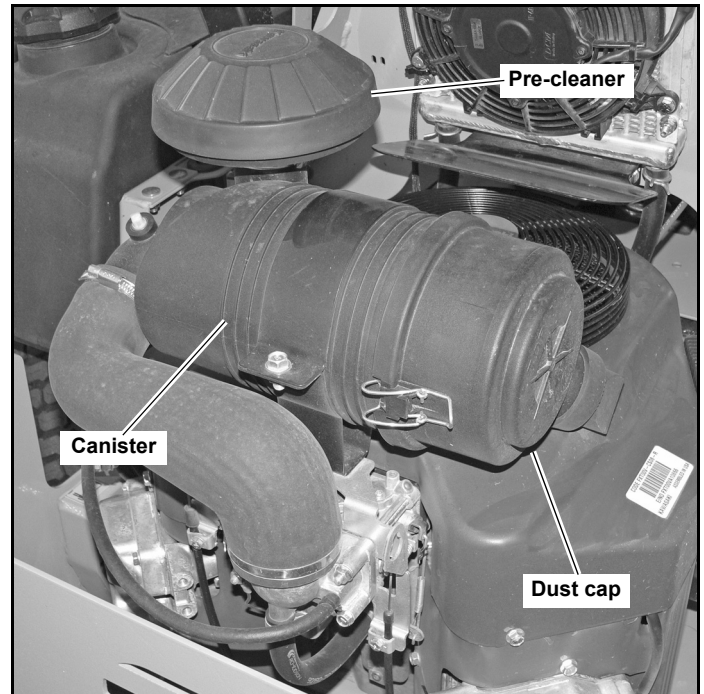

Figure 4-8
A specially designed dry filter is standard equipment on these mowers and supplies clean combustion air to the engine. Figure 4-8
3. Reinstall the dust cap. Make sure it seals all the way around the air cleaner body, then tighten the clamps. Figure 4-8